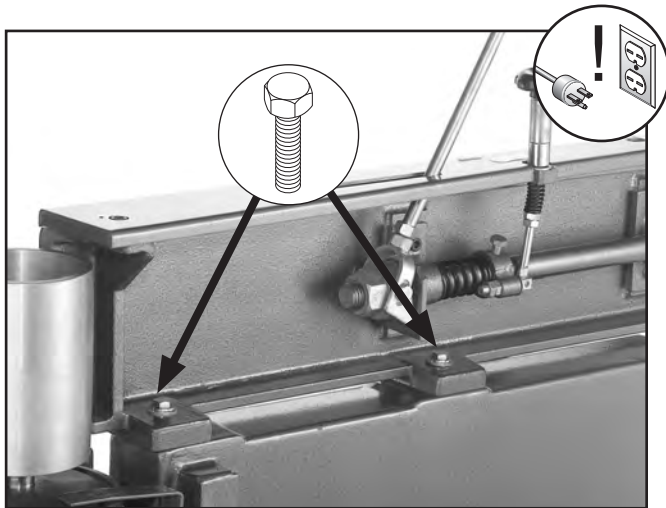

Figure 71. Location of platen adjustment hex bolts.
2. Loosen (2) hex bolts shown in **Figure 71**.